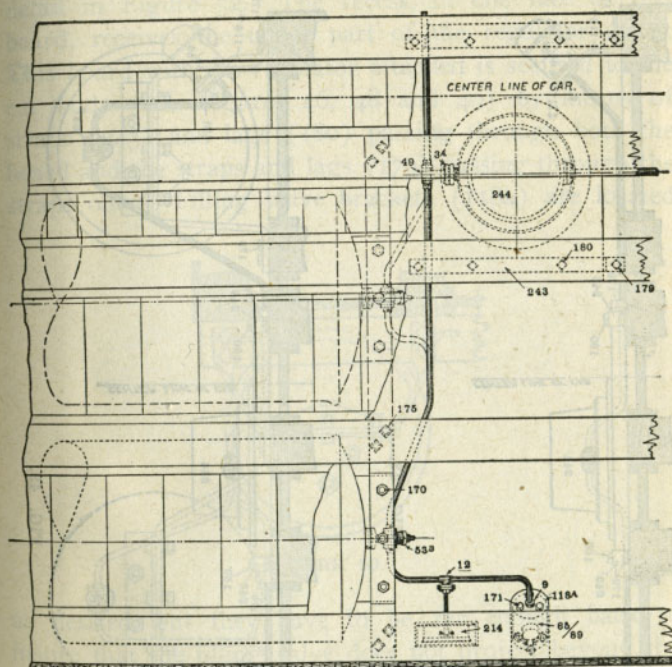
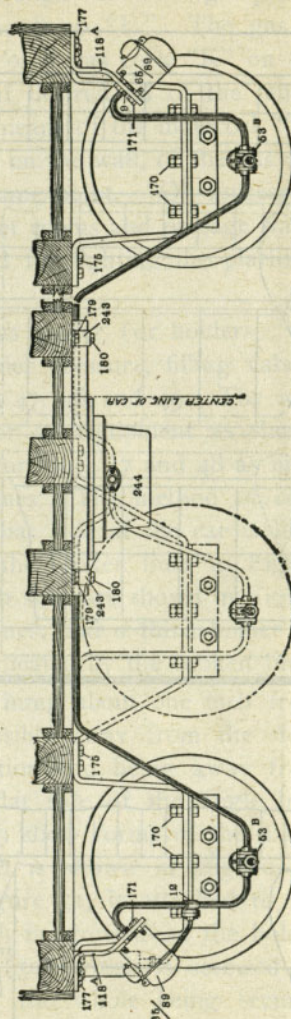
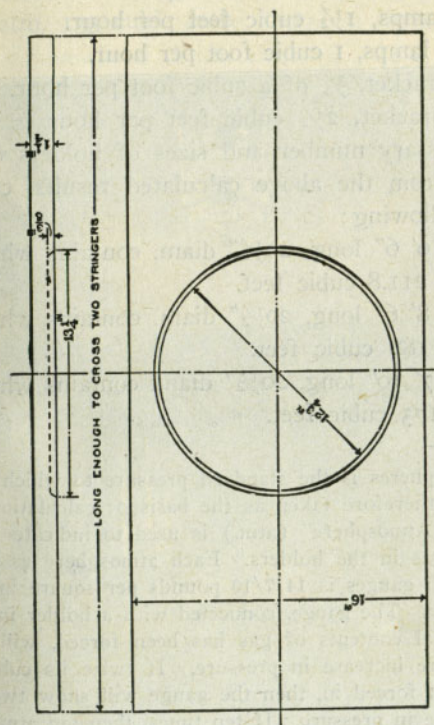

FIG. 46.
FIG. 49.
FIG. 52.
The arrangement of the gas holder (or holders), the regulator, piping for gas under pressure, filling valves, etc., is shown in Figures 46, 47, 48 and 49. The way the connections are made for an equipment as shown in Figure 45 is shown in Figures 46, 47 and 48 as indicated by the full or solid lines. The method of connecting a second holder on that side of the car is likewise shown as indicated by the broken lines in Figure 46. Two holders, one on each side, are shown in Figure 49 as indicated by the full lines, and a third holder on one side is shown also, as indicated by the broken lines.
detail in Figure 52. The recess, in one face of this board, receives the upper part of the regulator cover. This board with the regulator attached is secured to the car body (see Figures 46, 48 and 49) by means of straps (243) and lags (180) passing through both the board and the straps and lags (179) passing through the straps only. Filling valve brackets (118a) are located
The pipes are bent for gas under pressure, as shown in Figures 46, 47, 48 and 49. All pipes are usually made to drain to the holder fittings (53b) and the gauge pipe must drain to the fitting (12). The threads on the bent pipes are tinned, and are fitted in place after the flanges are screwed on. The brass flanges, etc., are thoroughly soldered to the pipes when all the pipes for gas under